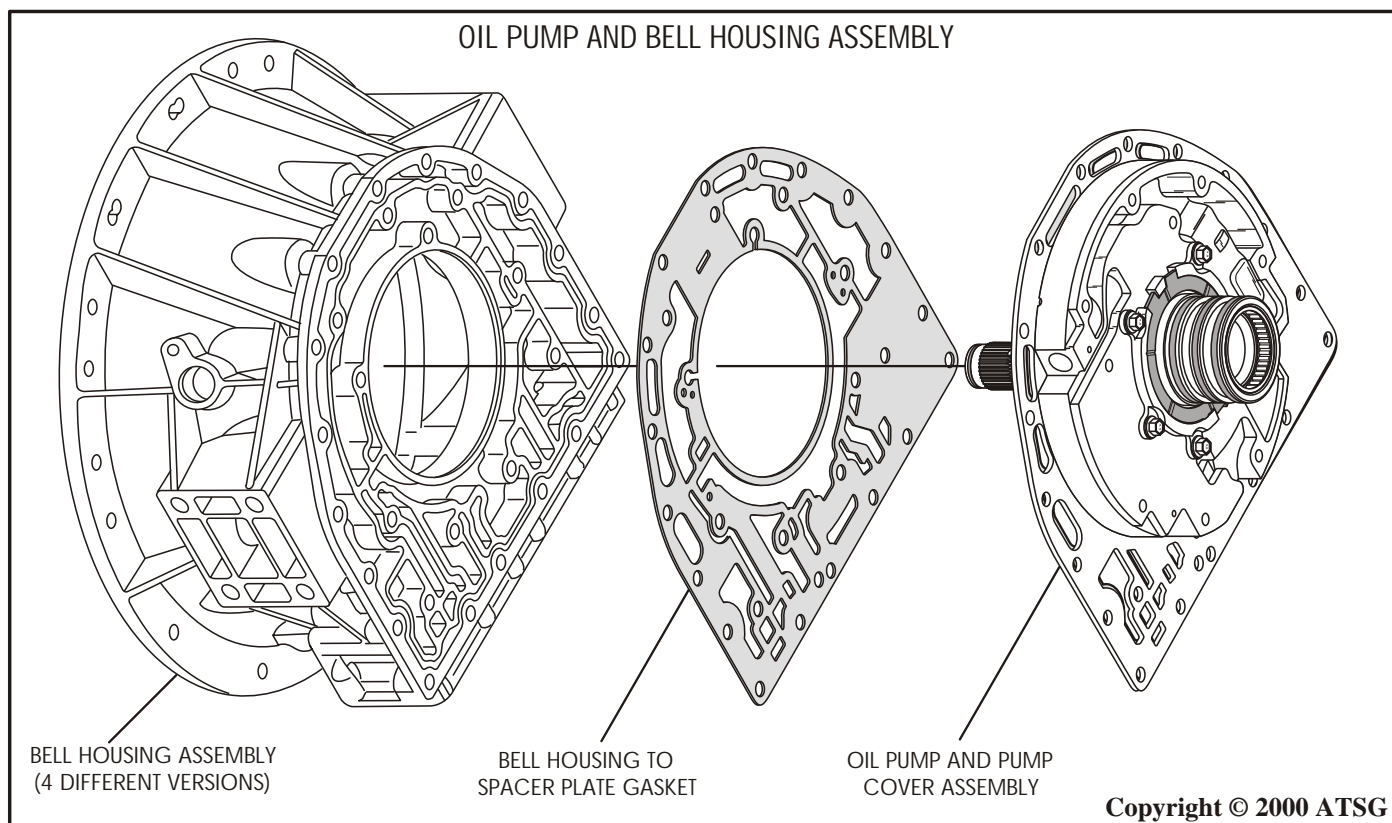

Figure 94
26. Assemble the completed oil pump and cover assembly to the bell housing (See Figure 94).